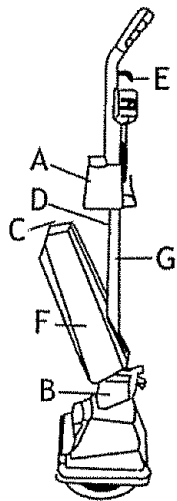

FIG. 10
1. Raise dispenser top "A" (Fig. 10). Position dispenser "F" in base "B".